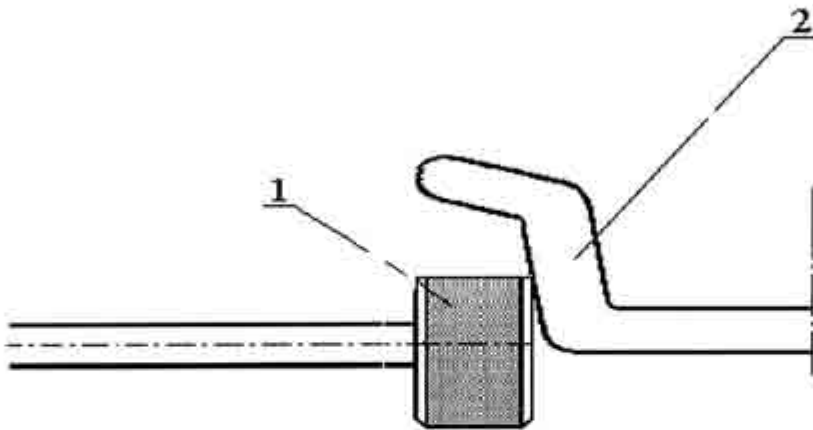

Fig 5a
a) after the positioner has been moved to the rim edge and then back to the start position a number will be shown which is in a proportion to the positioner move (see fig. 5a)